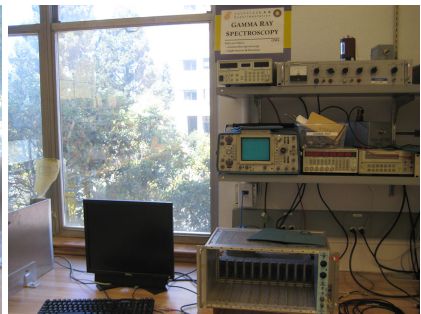
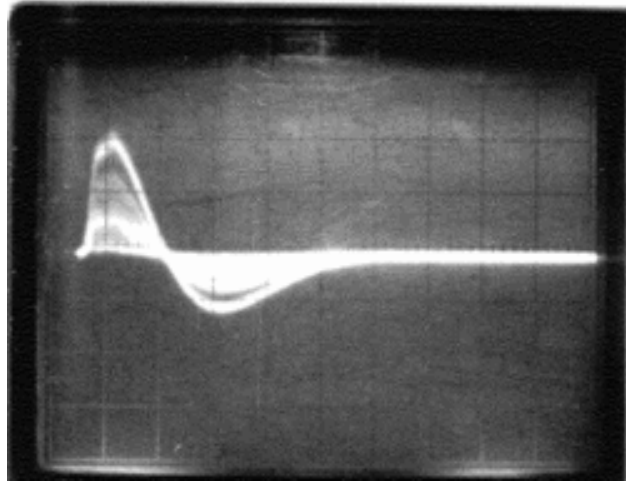

Figure 6: Gamma Ray Equipment
Figure 11: Amplifier Output Scope: 2 V/div; 1 μ sec/div
2. The CANBERRA AMPLIFIER (amp), **located in the equipment rack Figure 6 above**, amplifies the small pulses from the PMT to a sufficiently large one necessary for the PHA-5124 program. Feed the output of the PMT into the amp (you don't need a terminator here). Set the INPUT switch to NEG (since the PMT output are negative pulses), and connect the output to the coax connector labeled UNI (since the pulses are unipolar - that is, they are entirely negative as opposed to a signal that has positive as well as negative parts). Look at the output of the amp (without a terminator); you should see a positive pulse about 1 μ sec wide followed by a negative pulse that is of no interest (see Figure 11). Watch the effects of varying the gain controls, it's recommended to start with a COARSE GAIN of 100. Set the gain to produce a pulse that does not have a flat top.
- (c) After setting the LLD, STOP the unit from acquiring, change your source back to ^{137}Cs and ACQUIRE again. You should see one peak start to form in the middle of the display, along with a “mess” forming to its left. The peak corresponds to the 0.662 MeV ^{137}Cs gamma rays; what are the peaks to its left? It may be useful to try thinking about what determines the height of the peaks on the graph. Press STOP to stop the accumulation of counts when the peak is reasonably well formed. See Figure 11.
3. To examine the capabilities and linearity of the amplifier, use the SRS DG645 Digital Delay Pulse Generator (PG) to simulate the detected pulses that you saw coming from the PMT in step 1 (instructions on how to do this are below). To make the PG’s pulses as small as those from the PMT, connect the Pulse Gen to the *dB* attenuator (a small box with a row of toggle switches that selects the attenuation). Use a BNC tee to send the attenuated output of the Pulse Gen to the input of the amplifier as well as to the scope - once again you need a BNC tee and 50 ohm terminator on the scope-input to match impedance (Make sure you are not using the PMT OUTPUT signal but rather Digital Delay Generator) . Set the Pulse Gen such that the pulse width is approximately the same as that of the pulses from the PMT (This will be explained below). To get you started with the DG645, set it up as follows: